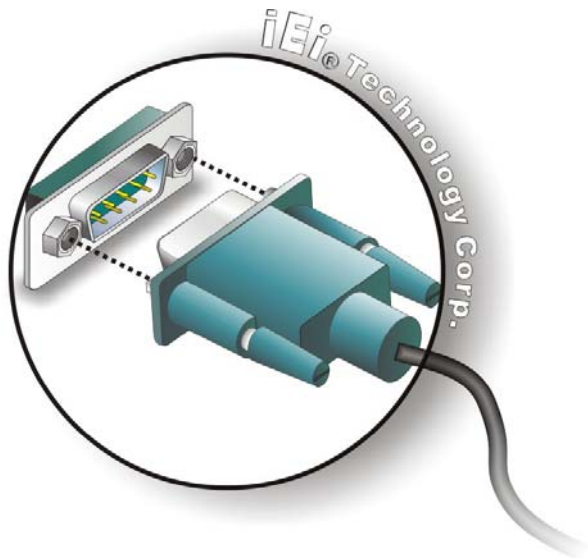

Figure 2-20: Serial Device Connector
Step 2: **Insert the serial connector.** Insert the DB-9 connector of a serial device into the DB-9 connector on the external peripheral interface. See **Figure 2-20**.